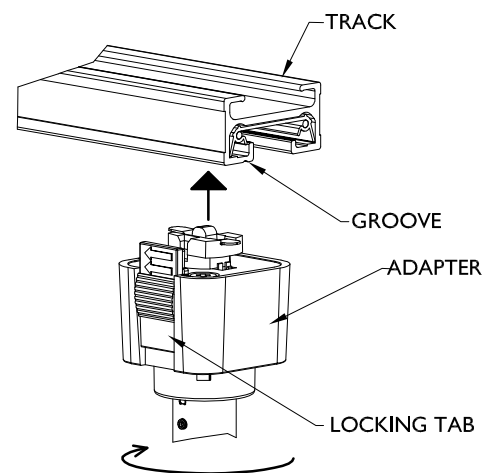

FIG. 3
2. Rotate ADAPTER clockwise 90° until LOCKING TAB snaps into track. FIG. 3